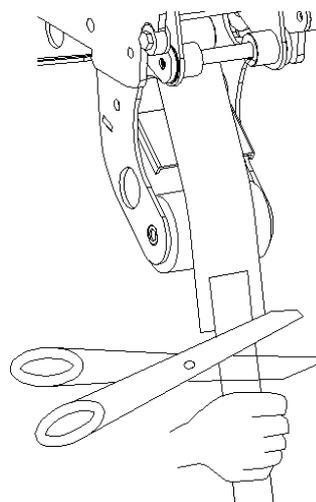

Figure 3-4
- C. Cut off the extra tape on the middle of rubber wheel, see Figure 3-4.